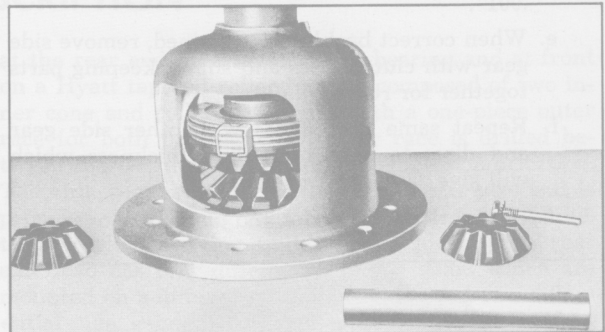

Fig. 36—Side Gear and Clutch Disc Removal
3. Remove side gears, clutch discs, shims and guides, one side at a time (fig. 36) noting location of discs, shims and guides to aid in reassembly.